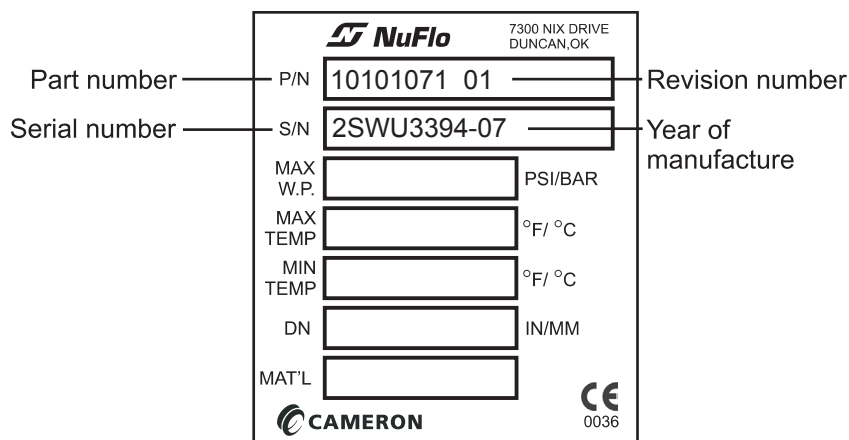

Figure 2—Example of product identification tag on flowmeter body
For easy reference, the meter specifications to include part number, serial number, material, nominal diameter (DN), and maximum working pressure are imprinted on a stainless steel tag on the meter body (Figure 2, page 6).